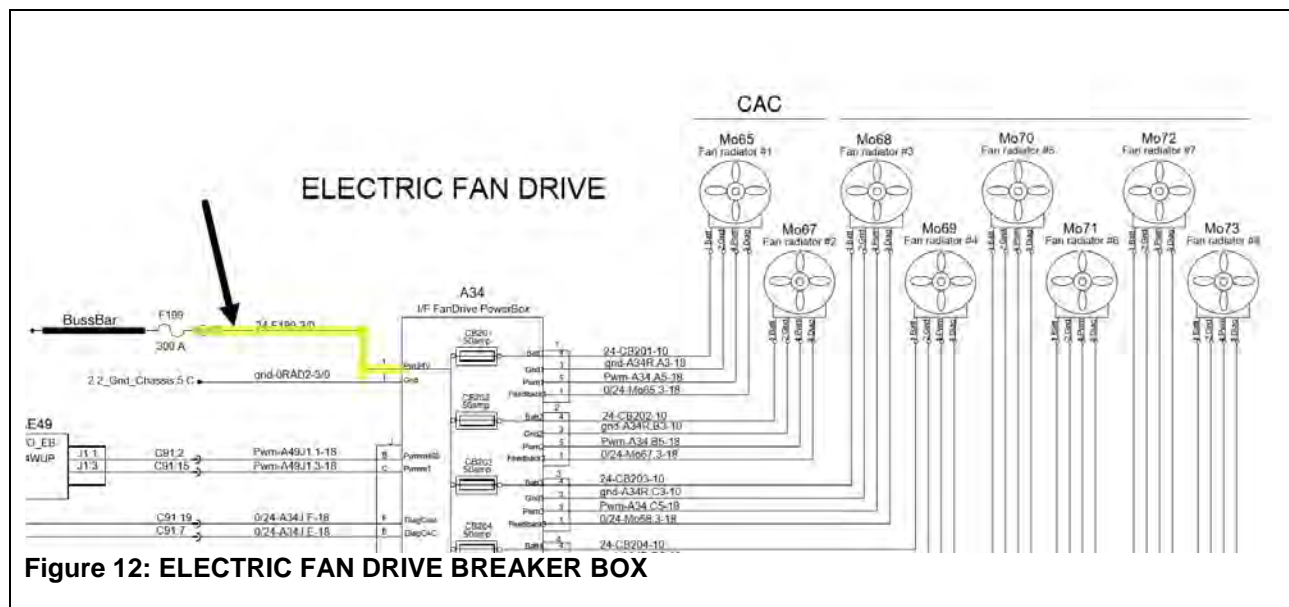

Figure 12: ELECTRIC FAN DRIVE BREAKER BOX
- From the electric fan drive breaker box up to fuse F199 in main power compartment (Figure 12)